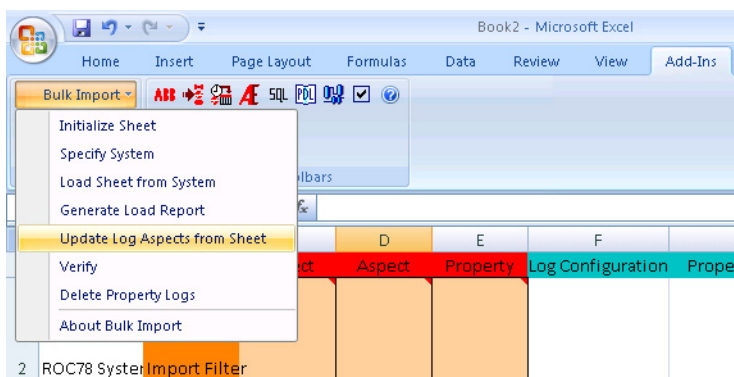

Figure 185. Updating Log Aspects from the Sheet
1. Choose **Bulk Import>Update Log Aspects from Sheet**, Figure 185.